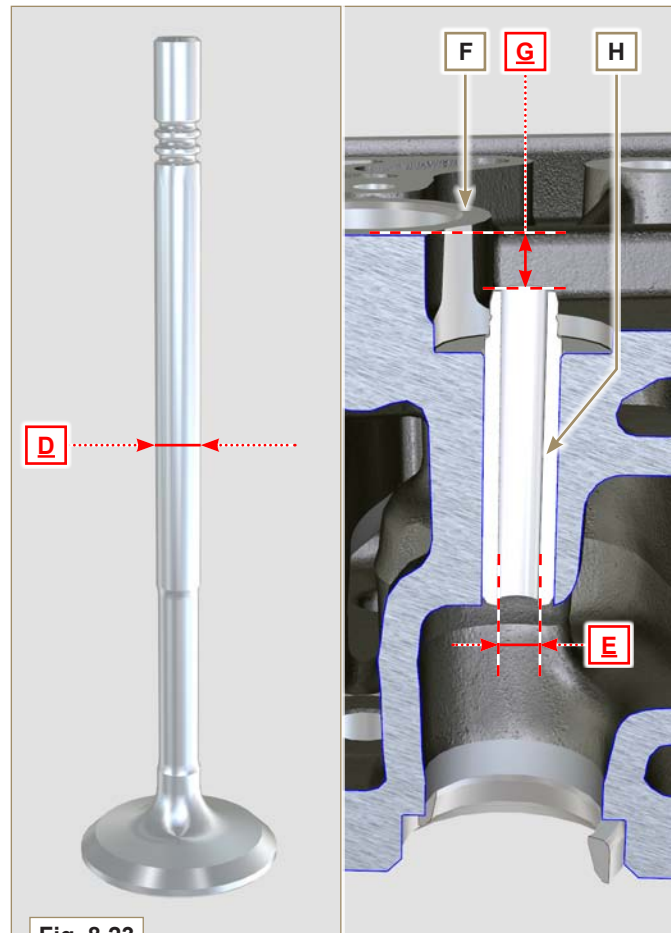

Fig. 8.23
Observe values **G** from surface **F** when assembling guides **H** (**Tab. 8.10 - Fig. 8.23**).
- The guides must be worked for value **E** (**Tab. 8.10 - Fig. 8.23**) after driving. Contact a rectification workshop for such operations.